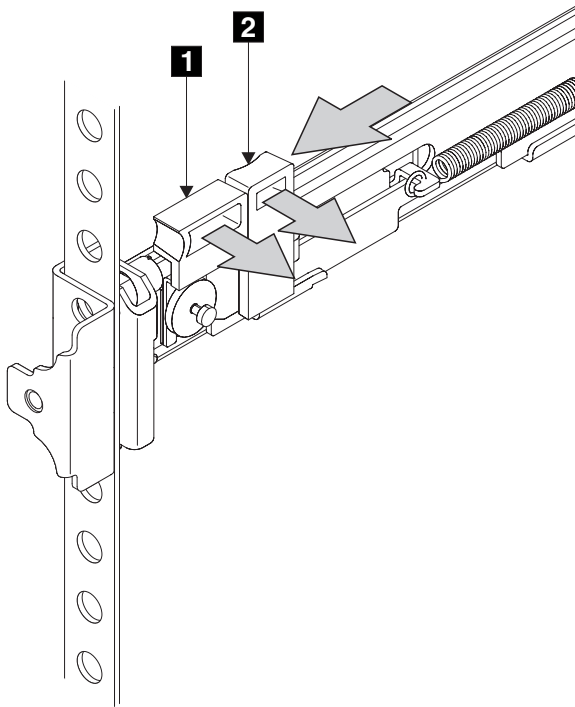

Figure 40. Closing the latch-lock carrier assembly
8. Push the latch lock **2** (Figure 40 on page 50) away from the rail to release the carrier. The latch-lock carrier slides toward the front of the rack and the locating pins project through the holes that are in the front flange and in the front rail bracket.